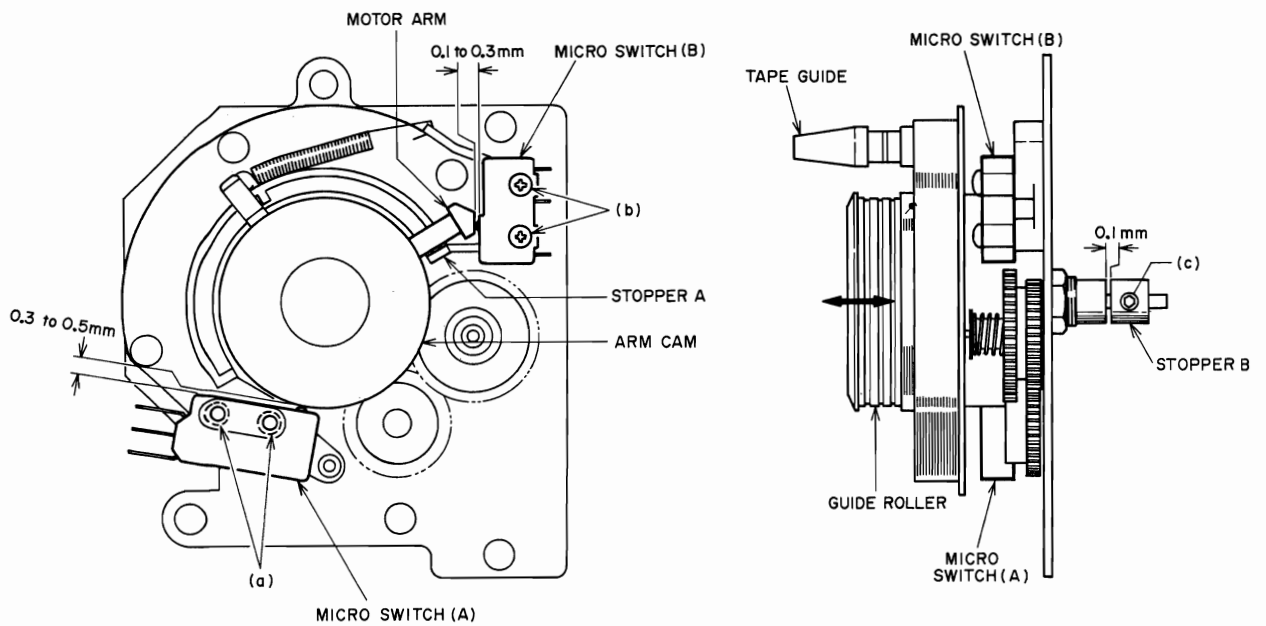

Fig. 7-1 Roller Block
1. GUIDE ROLLER LOOSE PLAY ADJUSTMENT (Refer to Fig. 7-1)
Adjust the stopper B (roller pulley on the right) screw (c) so that the loose play gap is approximately 0.1 mm when the guide roller is moved as indicated by arrow mark in Fig. 7-1.
2. MICRO SWITCH POSITION ADJUSTMENT (Refer to Fig. 7-1)